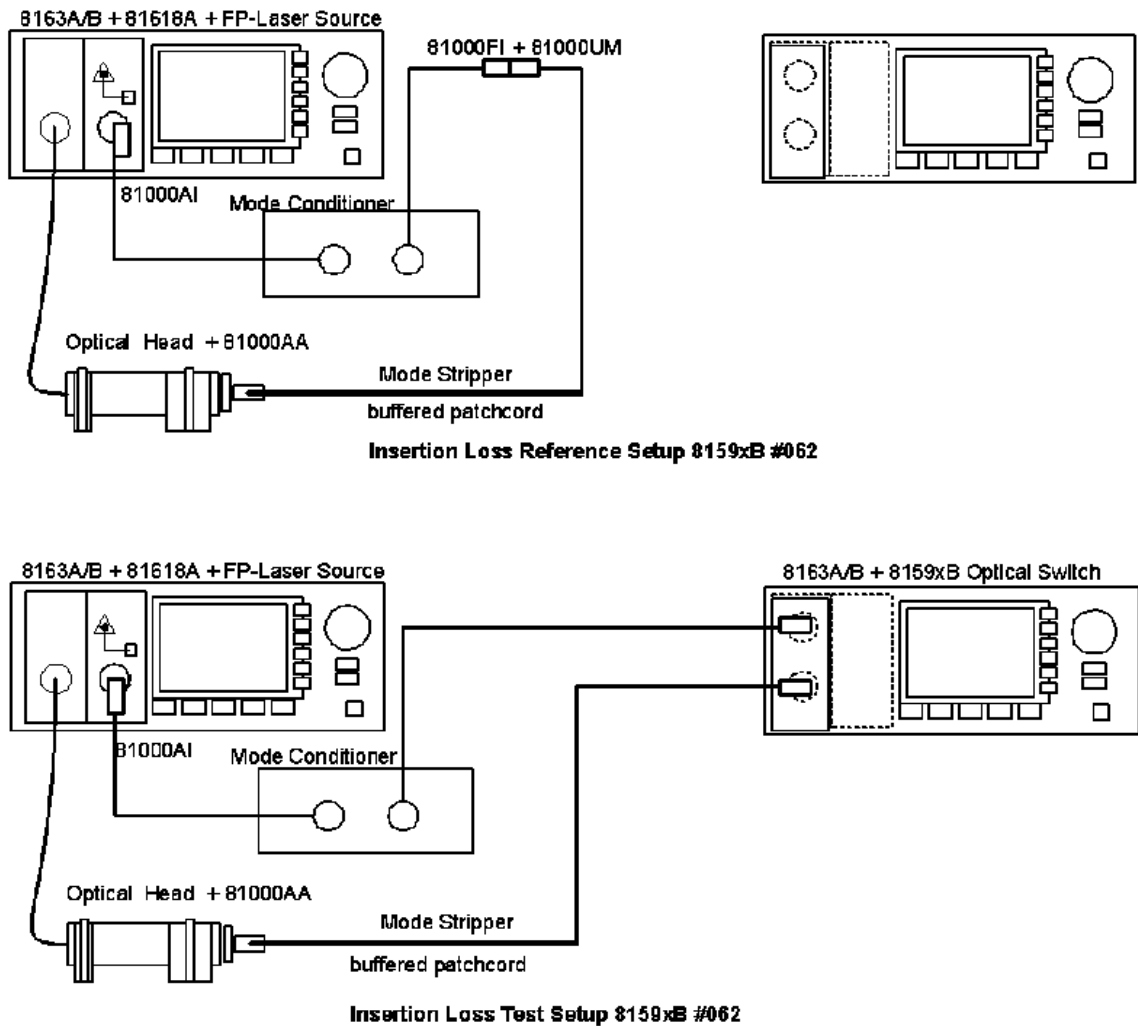

Figure 14 Insertion Loss Test Setup
- 9 Connect the equipment as shown in Figure 14. For 81594B, connect the laser source to input A, first.
- 1 Use the same equipment and test set up as used in Figure 14 on page 28.